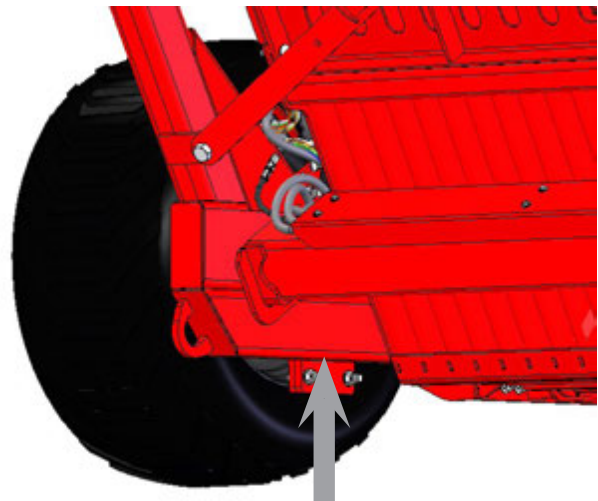

Figure 6.24: Place a jack under the Rock Picker
2. Locate suitable jacking points on the frame; see Figure 6.24.